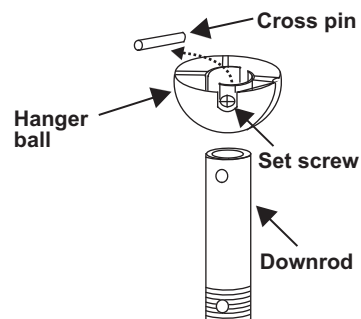

Figure 7
4. Remove hanger ball from down rod assembly by loosening set screws, removing the cross pin and sliding ball off rod. (Fig. 7)